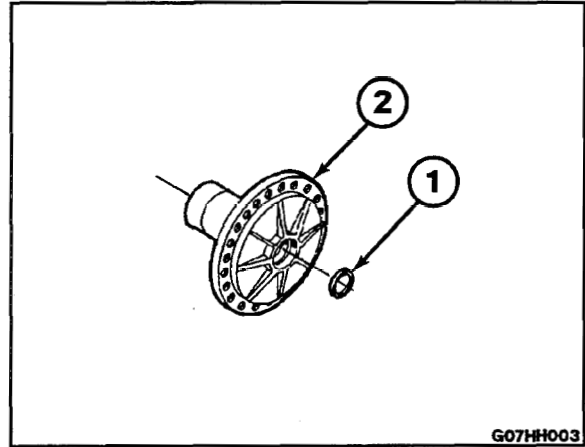

Figure 59
14. Remove oil seal (1, Figure 59) from tandem mounting sleeve (2).